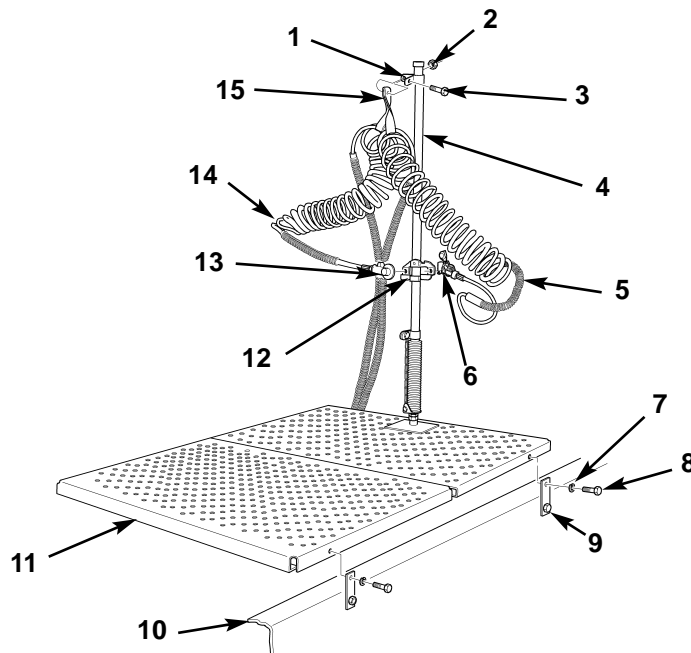

Figure 3. Installing Service Deck and Connecting Air Hoses.
4. Position service deck assembly (figure 3, item 11) on tractor frame (figure 3, item 10) and install four lockwashers (figure 3, item 7) and bolts (figure 3, item 8) on four tabs (figure 3, item 9) and service deck assembly (figure 3, item 11).
5. Loop strap (figure 3, item 15) around emergency air pressure hose (figure 3, item 14) and service air pressure hose (figure 3, item 5). Install strap (figure 3, item 15) on air hose tender (figure 3, item 4) with clamp (figure 3, item 1), screw (figure 3, item 3), and nut (figure 3, item 2).
6. Connect emergency air pressure coupling (figure 3, item 13) and service air pressure coupling (figure 3, item 6) to storage brackets (figure 3, item 12) on air hose tender (figure 3, item 4).